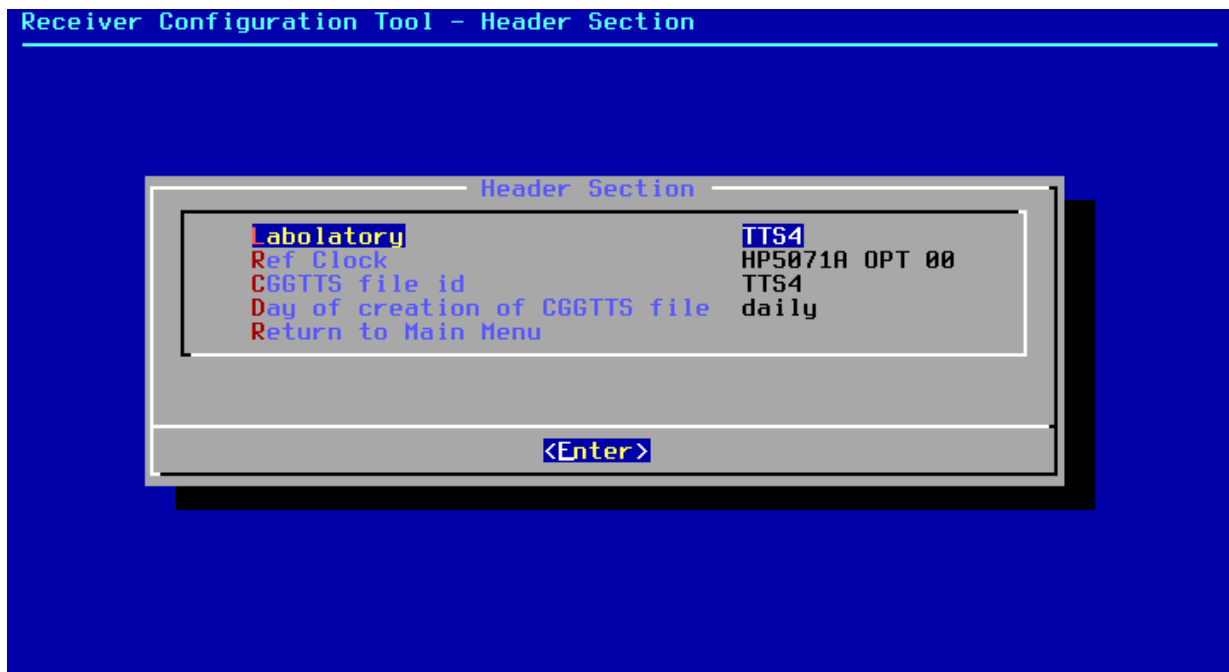

Figure 14: CGGTTS header section.
3. select Header Section and enter the following parameters (fig. 14)